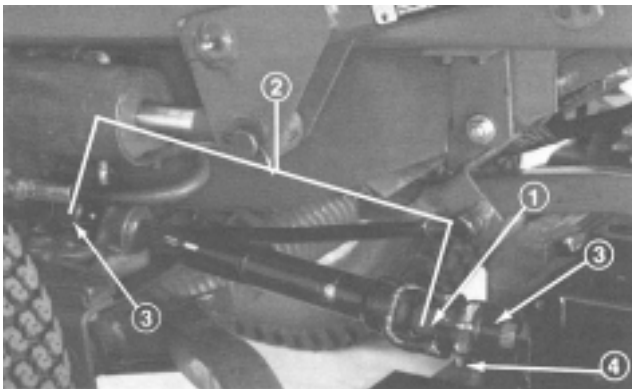

Figure 14
Slide the smaller yoke end of the PTO shaft onto the traction unit PTO shaft while aligning the mounting holes (Fig. 14). Secure it with a roll pin. Do not install the front end of the drive shaft at this time.
1. Line up the holes in the yoke and input shaft of the gear box. Slide the yoke onto the shaft (Fig. 14) and secure the parts together with a roll pin (3/16 x 1-1/2 in.). Tighten the 2 capscrews and locknuts securing the yoke to the input shaft.